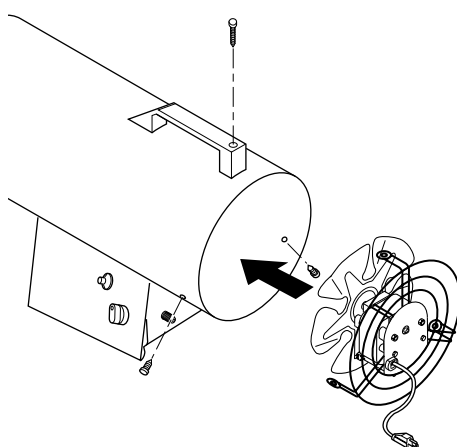

Figure 16 - Replacing Motor and Fan Guard into Heater
8. Place motor and fan guard into rear of heater shell. Make sure power cord is properly located (see Figure 16).